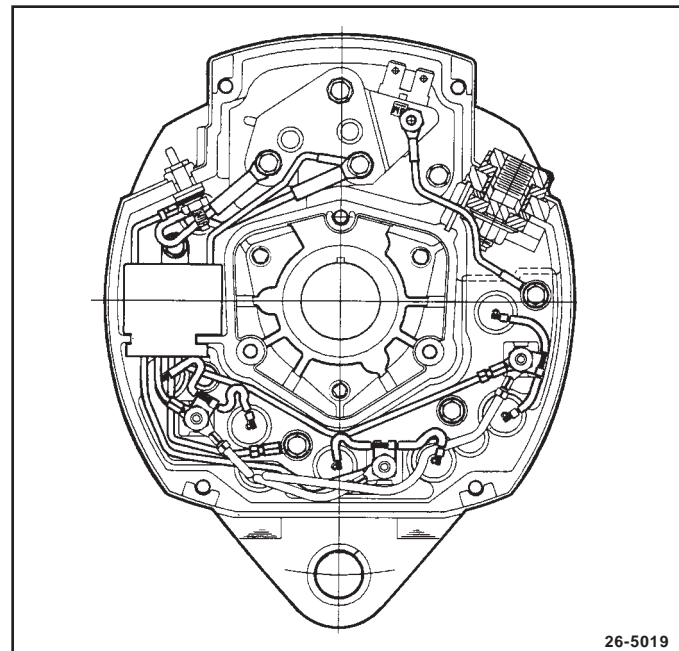

Figure 11. Electronics Compartment
2. Inspect electronics compartment (See Fig. 11) for contamination, for shorted or grounded wires, and for loose connections. If contamination is present, clean and dry compartment before proceeding. Check gasket for source of entry and replace as necessary.